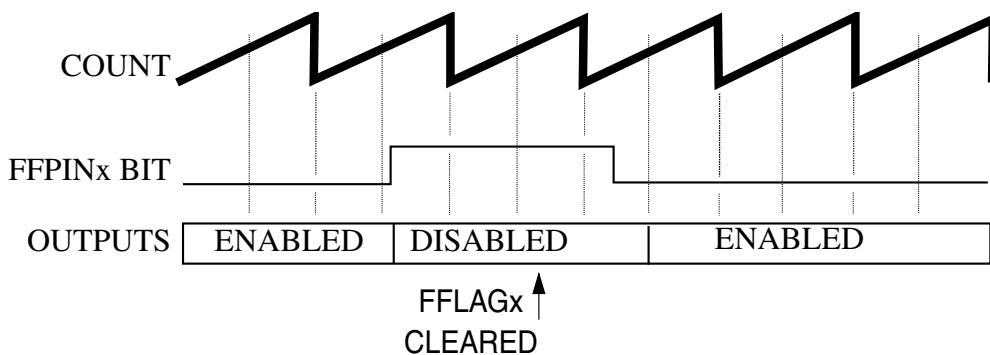

Figure 121. Manual fault clearing (FCTRL[FSAFEEx] = 1, FSTS[FHALFx] = 1)
- The filter detects a logic zero on the FAULTx pin at the start of the next PWM full or half cycle boundary, as shown in Figure 121. If FSTS[FFULLx] is set, then the disabled PWM pins are enabled at the start of a full cycle. If FSTS[FHALFx] is set, then the disabled PWM pins are enabled at the start of a half cycle.